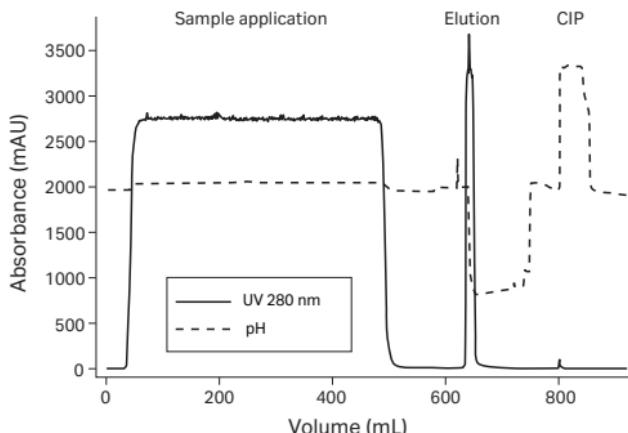

Fig 5. Purification of a monoclonal antibody from a mammalian cell culture on MabSelect SuRe
When optimizing elution conditions, determine the highest pH that allows efficient desorption of antibody from the column. This will prevent denaturing sensitive antibodies due to exposure to low pH. Stepwise elution (Figure 5) is often preferred in large-scale applications since it allows the target monoclonal antibody to be eluted in a more concentrated form, thus decreasing buffer consumption and shortening cycle times. It might be necessary to decrease the flow rate due to the high concentrations of protein in the eluate.
Figure 5 shows an example of purification of a monoclonal antibody from a clarified mammalian cell culture on MabSelect SuRe. The load was 21 mg antibody/mL column volume (CV), and the yield was 94% of highly purified antibody. An XK 16/20 column with a CV of 20 mL and a bed height of 10 cm was used.
The ligand leakage from MabSelect SuRe is generally low. For example, the eluate from the purification run shown in Figure 5 contained 3 ppm (ng ligand/mg antibody) of leached ligand.